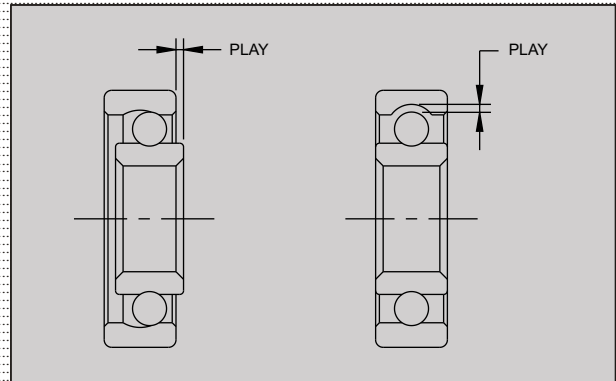

Fig. 3.152
- Inspect play of each bearing before fixing it. Hold inner race and rotate the outer race by hand and observe for any abnormal noise and smooth rotation. Replace bearing with a new one if found defective. (Fig. 3.152)